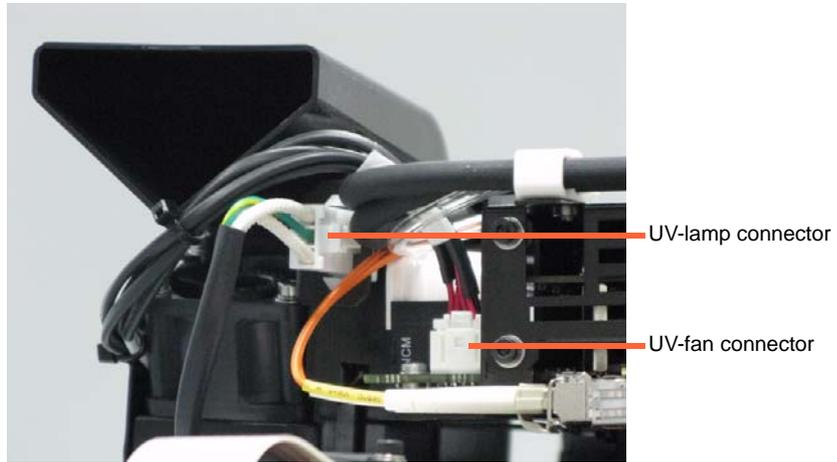

Figure 7-72: Disconnecting the UV lamp assembly
17. Reconnect the power connections (see figure 7-72).